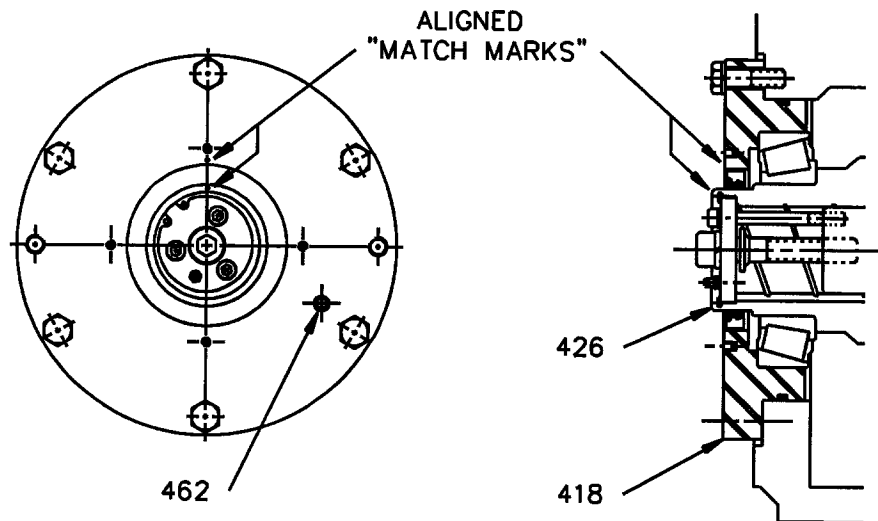

Figure 12: Retract Alignment Markings
- Turn flexible coupling [200] (*Figure 6, page 16*) to rotate the shaft and align the punched "match marks". Marks are located on the end of hollow reducer shaft [426] and outer bearing cap [418], shown in *Figure 12*.